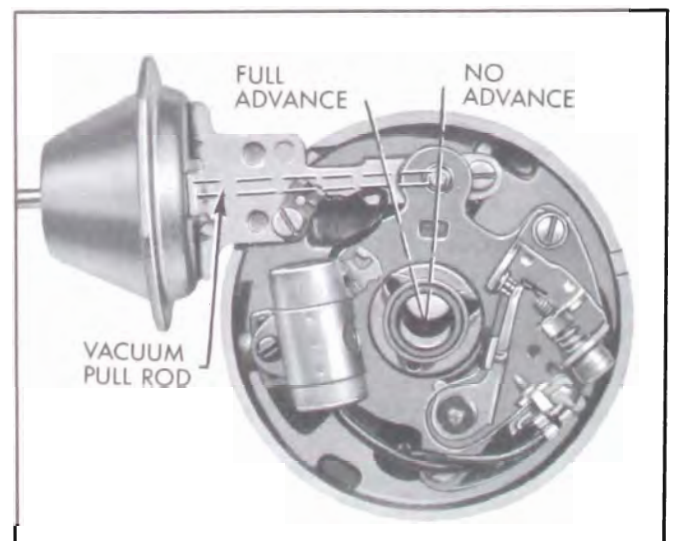

Figure 10-30—Vacuum Advance Mechanism
3. **Vacuum Advance** is governed by manifold vacuum. The contact point set is mounted on a breaker plate which is located below the centrifugal advance mechanism and uses the outer diameter of the upper shaft bushing for its bearing surface. The movable breaker plate is held in position on the upper shaft bushing by a retainer. The vacuum unit is mounted on the distributor base and under the movable breaker plate so that the breaker plate can be rotated around the distributor cam by a link from the vacuum unit. See Figure 10-30.